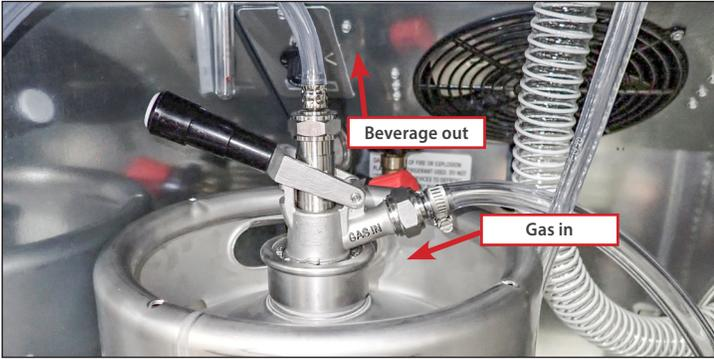

Fig. 11. Installed and connected tapper.
13. Attach the taper to the keg. See fig. 11.
14. Connect the clear vinyl hose to the taper. See fig. 11.